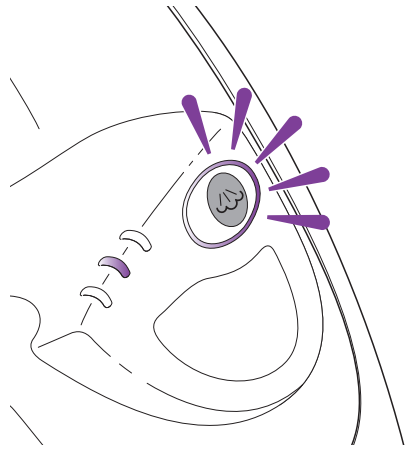

fig. 8
- 2 The **ON/STEAM SETTING** button will be blue. If the light does not turn on, reference the troubleshooting section on page 17. (**fig. 8**)